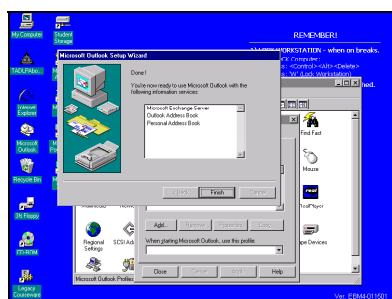

FIGURE II.11
- 11) The last profile creation screen will open letting you know you are ready to start using Outlook; press the finish button to continue. (see figure II.11)